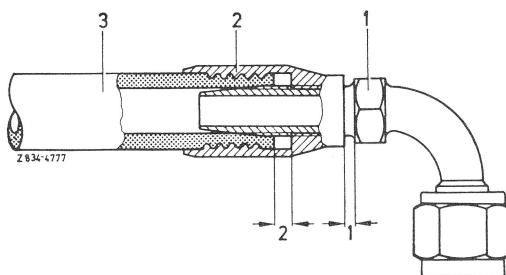

Figure 1
**6** Lubricate inside of hose couplings (2) with refrigeration oil and thread onto hose end up to 2 mm, before stop in coupling (Fig. 1).